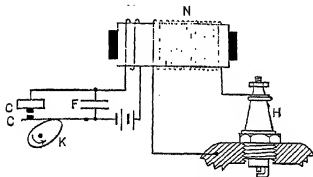

FIG. 158. Circuit of make-and-break gas-engine ignition system.
When the points *P* are opened, a spark will jump across them due to the high voltage induced. This spark is sometimes used to ignite illuminating gas or the gas mixture inside the cylinder of a gasoline engine. For the latter purpose, however, another type of coil shown in Fig. 158
**85. Gas-engine Ignition.** The circuit of a make-and-break system of gas-engine ignition for a one-cylinder engine is shown in Fig. 158. The cam *K* is so geared to the main shaft of the engine that it opens the contacts *C-C* at the instant when conditions in the cylinder are just right for ignition. During the period in which the contacts *C-C* are closed, the battery sends a current through the iron-cored coil *M* (called the primary coil) setting up a flux in the iron core. When this flux changes it induces a voltage both in itself and in the other coil *N* (called the secondary coil) wound on the same core. Now coil *N* is composed of many turns of fine wire and has induced in it many times the voltage induced in *M*. When the circuit through *M* is broken, this high voltage induced in *N* is sufficient to send a spark across the gap between the points of the spark plug *H*. The condenser *F* steals the current away from contacts *C-C* when they open, thus preventing burning them.
For automobile ignition, the arrangement of Fig. 158 is modified by providing a vibrator to open and close the points *C-C* in rapid succession thus giving a series of sparks rather than a single one. This is accomplished by placing the vibrating points at the end of the induction coil thus using